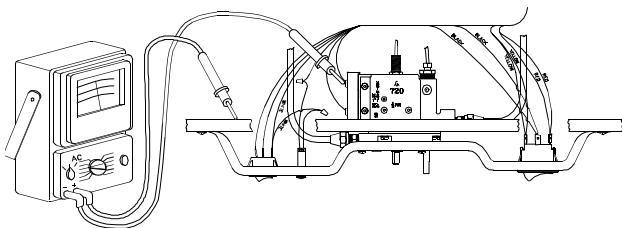

**Figure 10**
### Control Panel Removal Procedure-Figure 10
- Access to the combination control is gained by removing the control panel and the control bracket mounting screws. See "Control Panel Removal Procedure" (Figure 10) on page 13.